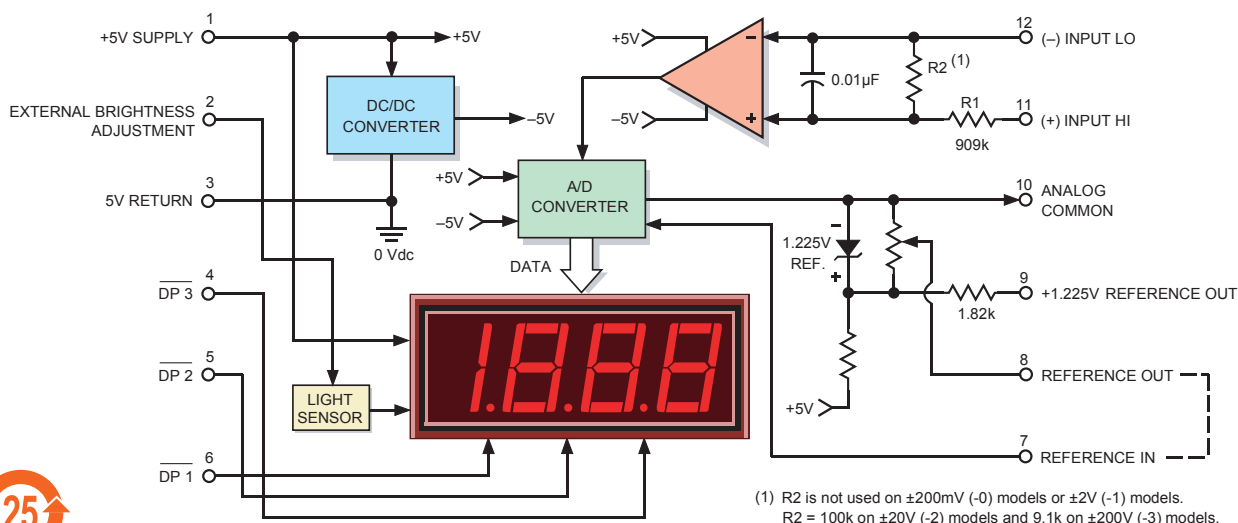

Figure 1. DMS-30DR Simplified Schematic
① Applies for transient or continuous overvoltages applied to (+) INPUT HI (pin 11) with (–) INPUT LO (pin 12) properly connected. Pin 12 is not overvoltage protected (see Figure 1). Voltages applied to pin 12 should not exceed the supply voltage.
② See Technical Notes.
The simplified schematic shown in Figure 1 can be very useful when debugging a malfunctioning panel meter circuit, particularly if the user has some knowledge of operational amplifiers (op amps). The meter’s high-impedance input consists of an op amp powered from a  $\pm 5\text{Vdc}$  power supply (the  $-5\text{V}$  is internally generated). Knowing this, one can easily see why input signals applied to (–) INPUT LO and (+) INPUT HI have to be kept within the power supply rails of  $\pm 5\text{V}$ . Also note that only pin 11 has a current-limiting 909k $\Omega$  series resistor. High input voltages that have a common ground with pin 3 (5V RETURN) should only be applied to pin 11 ((+) INPUT HI) and never to pin 12. In these high-voltage cases, pin 12 should always be tied to pin 3 (5V RETURN).